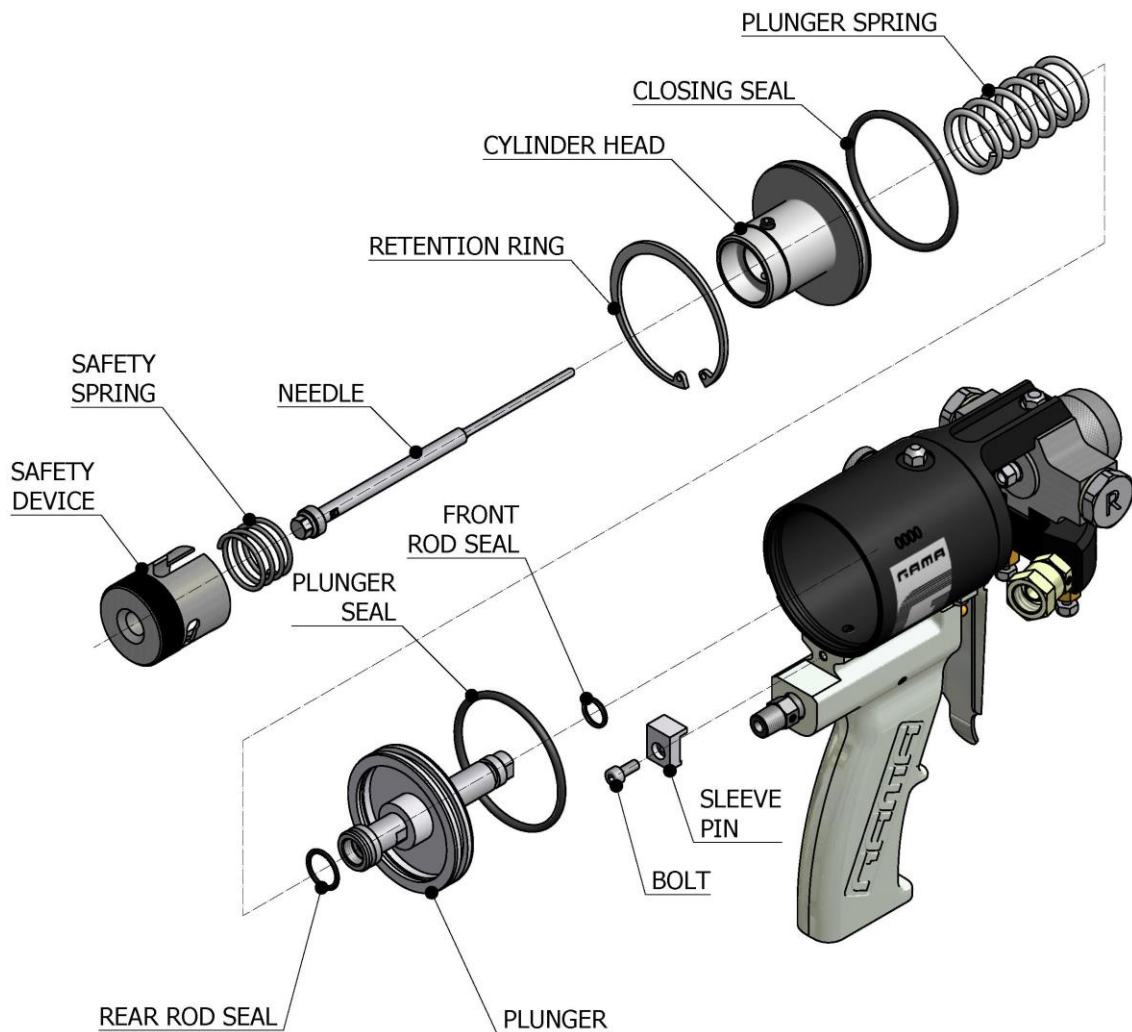

Figure. 23
4. Unscrew the bolt fixing the sleeve pin at the rear of the gun (see **Figure. 23**, page 28).
5. Remove the retention ring that positions the cylinder head with pliers for removing seeger rings (see **Figure. 23**, page 28).
6. Remove the pneumatic cylinder head (see **Figure. 23**, page 28).
8. Pull hard on the plunger to remove the whole unit from the cylinder sleeve. Also remove the plunger spring (see **Figure. 23**, page 28).